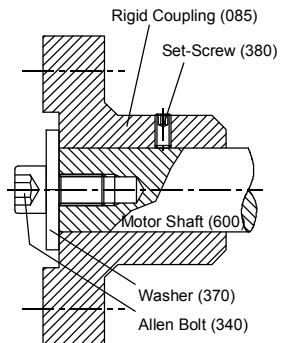

Fig. 9.
- Place the motor (600) vertical as the shaft end comes to the upper side.
- Slip the rigid coupling (085) onto the motor shaft put the washer (370) on the rigid coupling (085) and tighten by using imbus head bolt (340). So that the shaft end and the coupling end will be on the same plane (see Fig. 9).
- Tighten the set-screw (380) over the rigid coupling (085).
- Mount the pump shaft (060) to the rigid coupling (085).
- Assemble the motor pedestal (012) to the motor (600).
- Place the stuffing box cover (046) onto the motor pedestal (012).
- Slip the rotating part of the mechanical seal onto the pump shaft (060) and place the spacer sleeve (067).
- Place the impeller key (210) into keyway, slide the impeller (050) onto the shaft (060) and screw the impeller nuts (065).
- Assemble the volute casing (001).